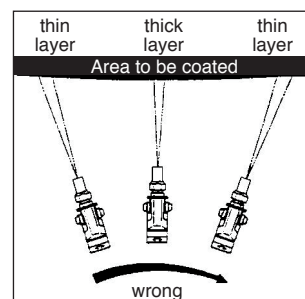

Fig. 19: Do not wave!
- Ensure an even speed and move the spray gun parallel to the area to be coated. Waving the spray gun causes irregular coating (see Fig. 19).